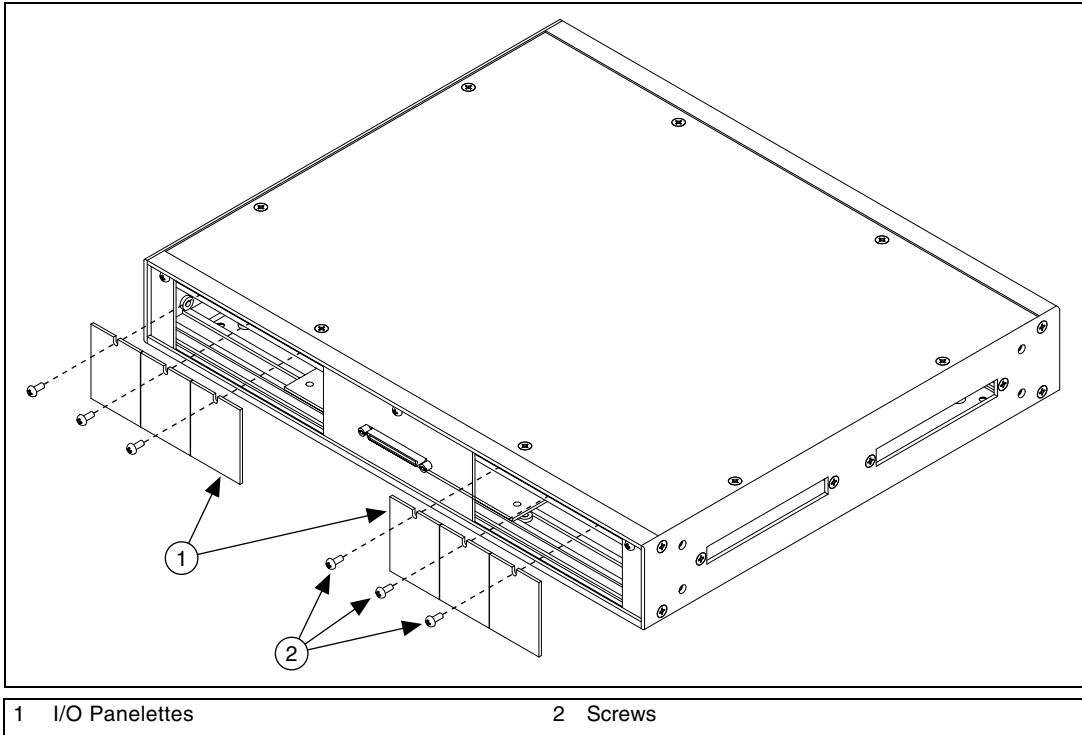

Figure 13. Install Blank I/O Panelettes
12. Install I/O panelettes in the unused panelette openings, as shown in Figure 13. The panelettes in the following figure are blank, but you can purchase many other types of I/O panelettes from NI. For more